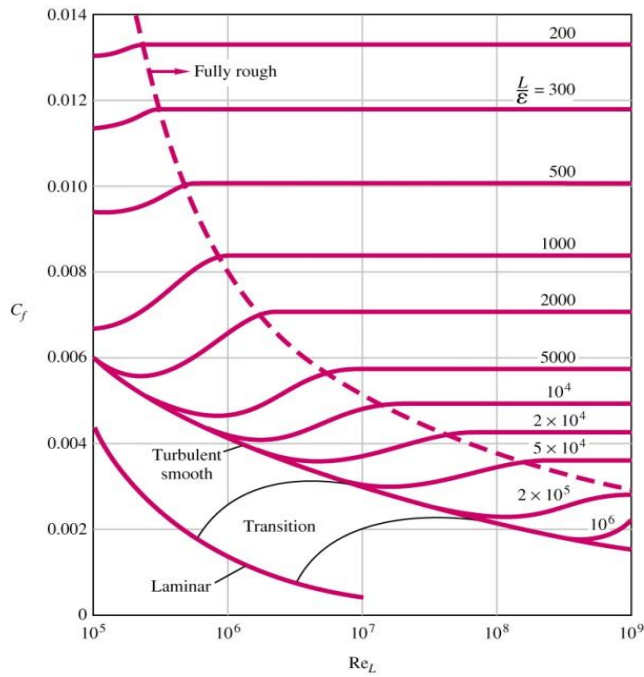

Figure E3 Average friction coefficient for flow over smooth and rough flat plates, White (1999)
The average friction coefficient over the whole plate  $C_f$  is a function of the surface roughness for the turbulent boundary layer and also a function of the Reynolds number based on the length of the plate  $Re_L$ , see figure E3 in Exercise 8. This friction coefficient can be determined in Flow Simulation by using the final value of the global goal, the X-component of the Shear Force  $F_f$  and dividing it by the dynamic pressure times the area  $A$  in the X-Z plane of the computational domain related to the flat plate, see figure 2.28a) for the size of the computational domain.
2.8 Use different fluids, surface roughness, free stream velocities and length of the computational domain to compare the average friction coefficient over the entire flat plate with figure E3.